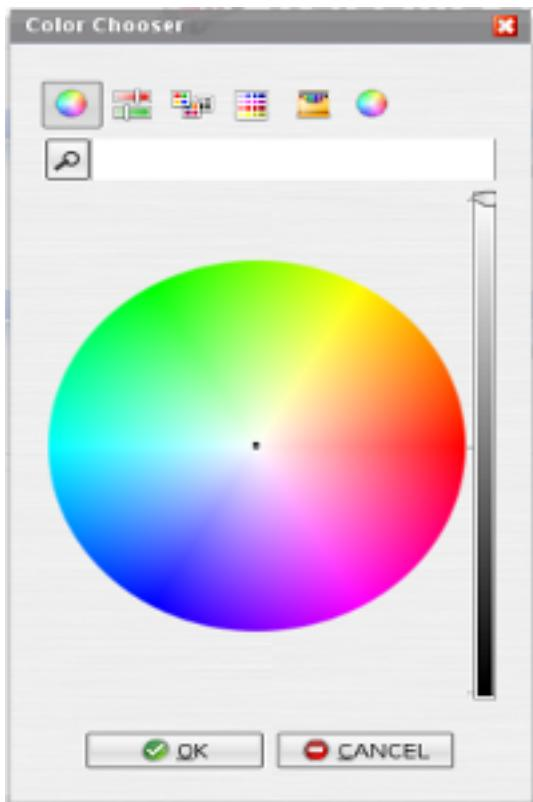

Figure 4.2. Font Color Chooser
2. Move your mouse to hover over the right top corner of the box whose font color you want to change until the following color selector icon appears.  Once the icon appears click it with your left mouse button, and wait for the color chooser dialog See Figure 4.2, "Font Color Chooser".